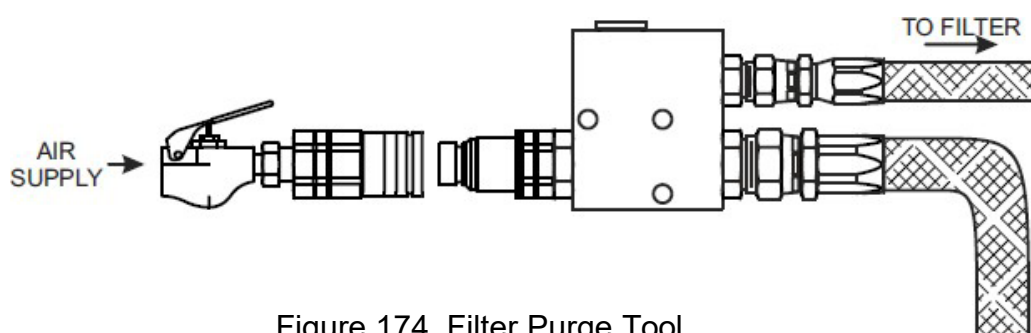

Figure 174. Filter Purge Tool
1. Purge engine oil through the oil filter and into the engine sump by attaching a compressed air line to the filter purge tool, then attached the purge tool to the male quick disconnect on the Quick fix valve. Hold lever on purge tool for 10 seconds (Refer to Figure 174).